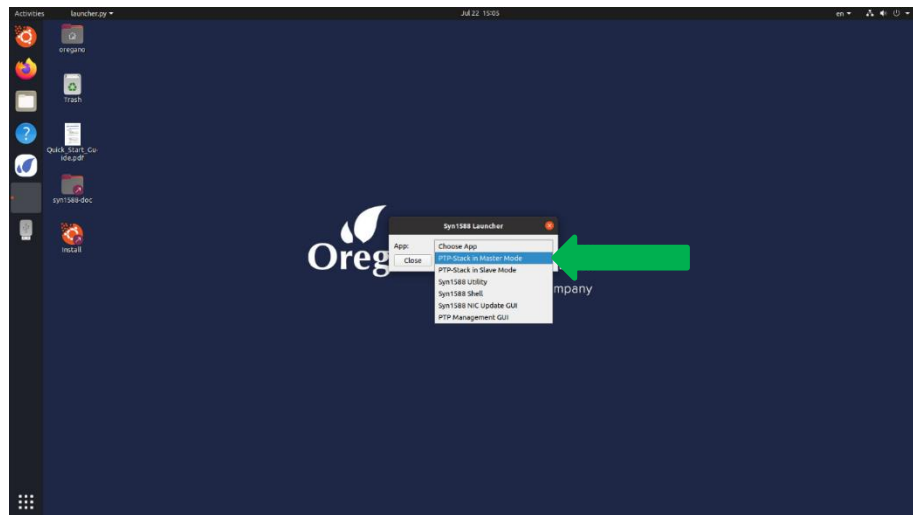

Figure 5 Select to run “PTP-Stack in Master Mode”
2. Select “PTP-Stack in Master Mode” in the drop-down menu (Figure 5)